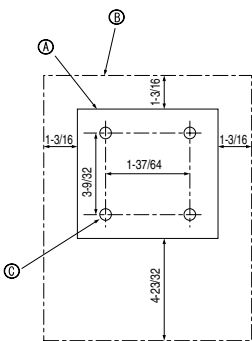

Fig. 6-2
(1) Select an installing position for the remote controller. (Fig. 6-2)
##### [Fig. 6-2]